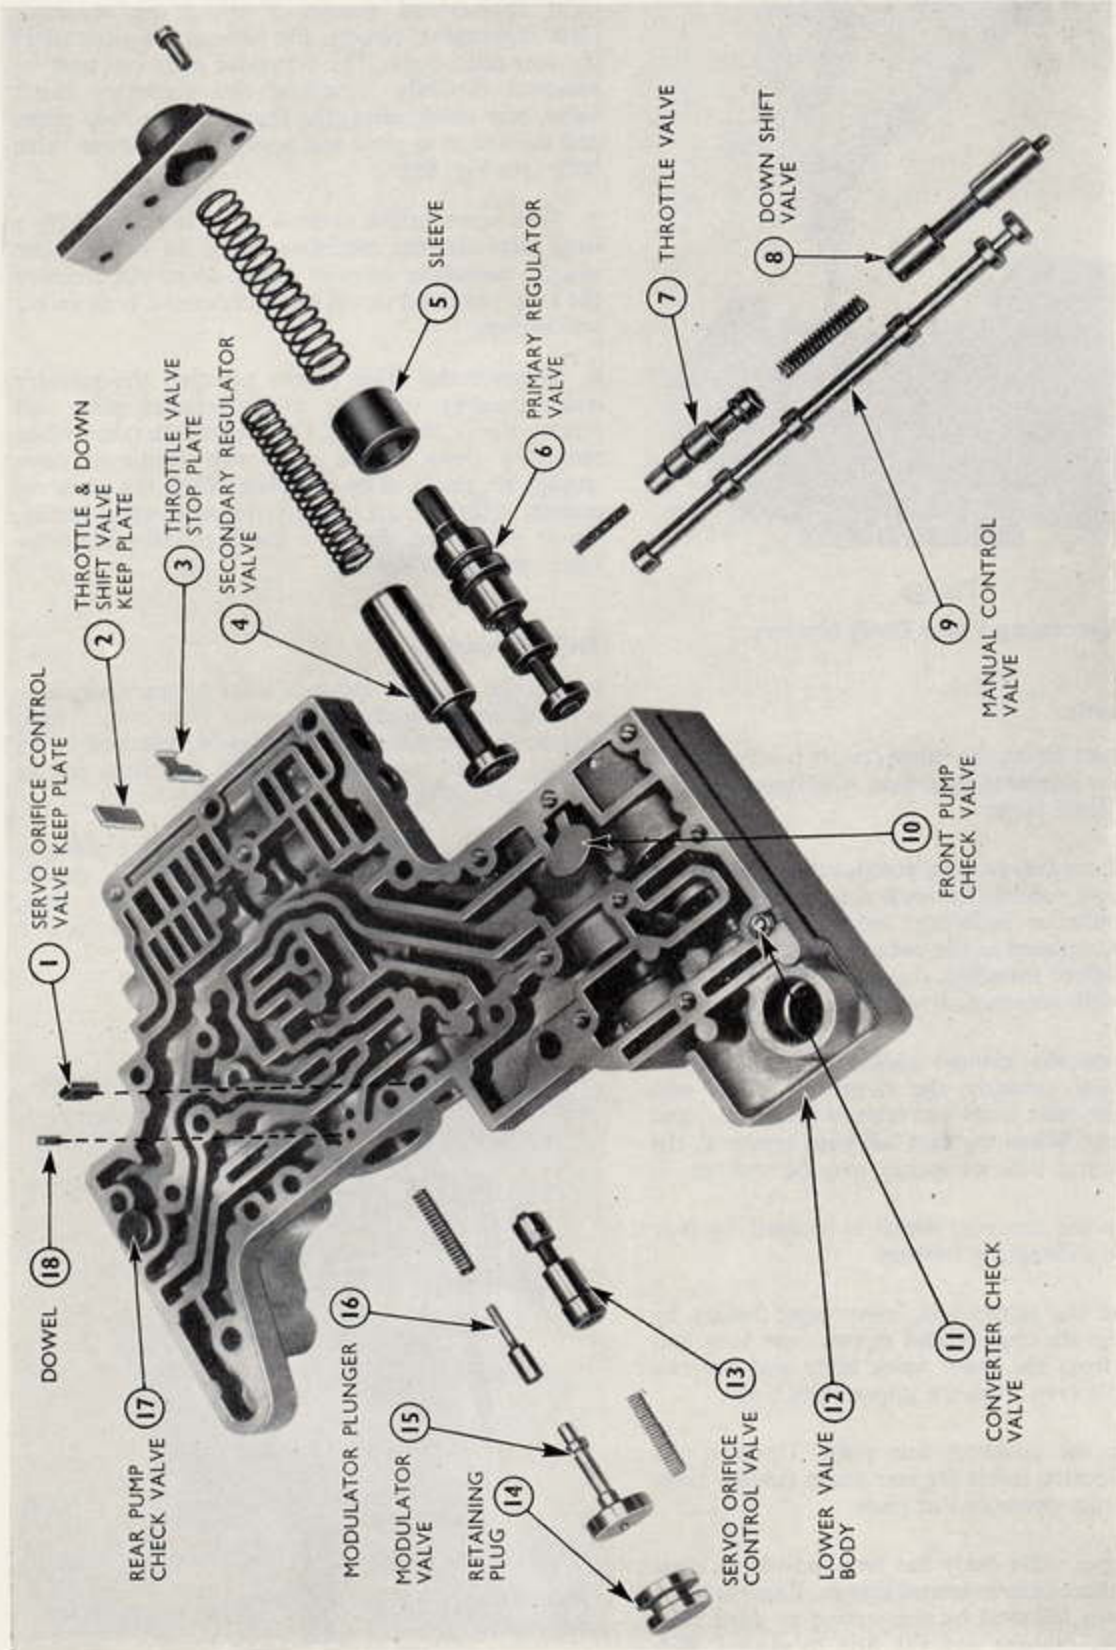

Fig. 61
6. Remove the oil tube collector by unscrewing eight cheese-head screws. Keeping the separator plate uppermost, remove the two screws situated in the rear filter body. The separator plate can now be removed carefully, revealing the converter check valve, rear check valve, the throttle valve keep plate, and throttle stop plate and spring in the lower valve body (see Fig. 61).